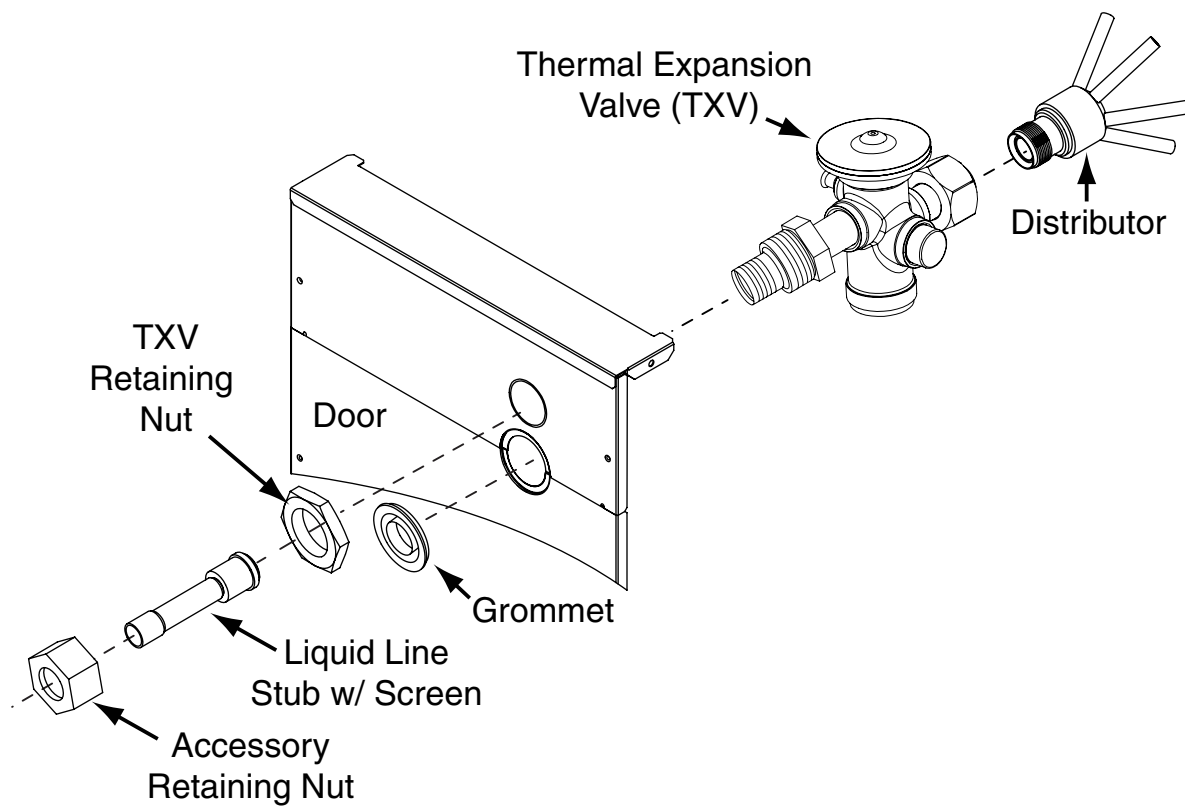

Figure 3. TXV Assembly
- Install the TXV retaining nut onto the inlet end of the TXV. See Figure 3 \(page 6\).
- Align the retaining nut on the TXV body and hand tighten both components. Mark a line on both bodies and then tighten an additional ¼ turn using two wrenches. See Figure 3. **NOTE:** The movement of the two lines will show how much the nut is tightened. If a torque wrench is used, tighten to 10-12 ft lbs or 14-16 Nm.